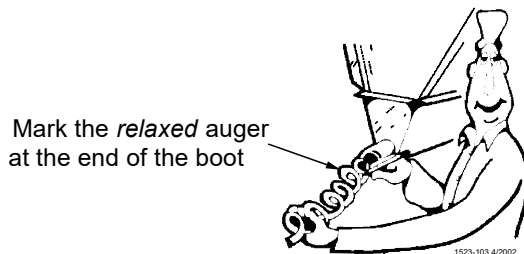

Figure 39. Wiring the Motor
13. Pull the auger at the boot end until it begins stretching. Then let it relax. In the relaxed position, mark the auger at the end of the boot. See Figure 39.